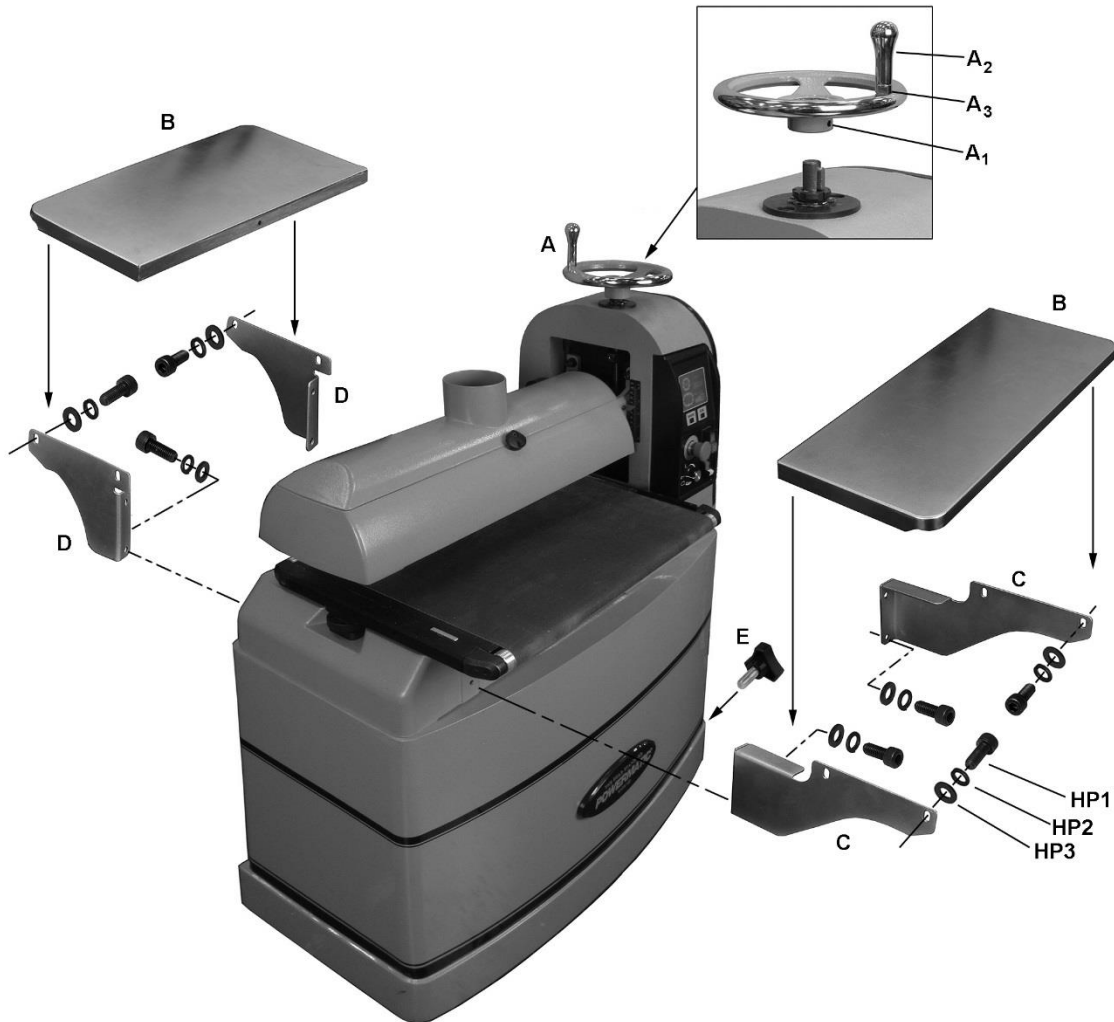
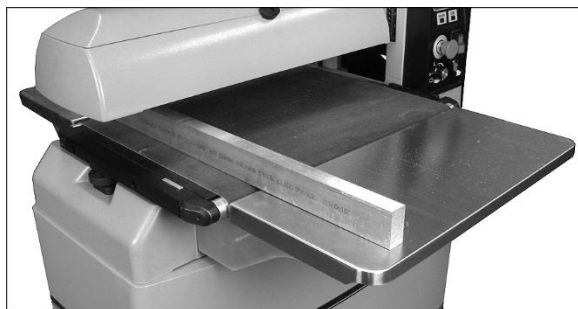

Figure 2
Figure 3
See Figure 2.
1. Back off set screw (A1, Figure 2), and push handwheel (A, Figure 2) down onto shaft as far as it will go. Make sure set screw faces key on shaft. Tighten set screw with 4mm hex wrench.
1. Attach table brackets (C,D, Figure 2) to sander base with M8 screws and washers (HP1,HP2,HP3). Tighten screws with 6mm hex wrench.
NOTE: Longer brackets (C) mount to infeed side, shorter brackets (D) to outfeed side. Each bracket has left and right version. See Figure 2 for proper orientation.
2. Place extension tables (B) onto table brackets (C) and insert screws and washers (HP1,HP2,HP3). Note: Leave screws loose for now.
3. Place a straight edge across conveyor bed and extension table. See Figure 3.
Screw the caster lock knobs (E, Figure 2) into the threaded holes on the side of the cabinet.